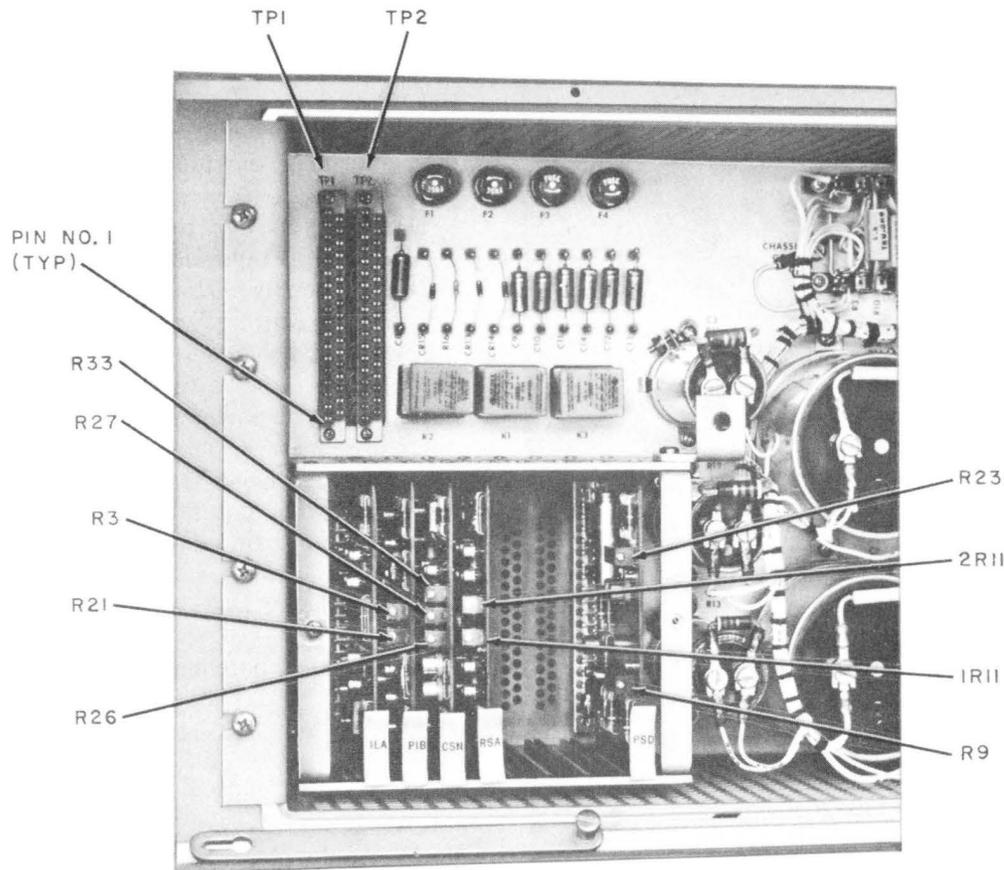
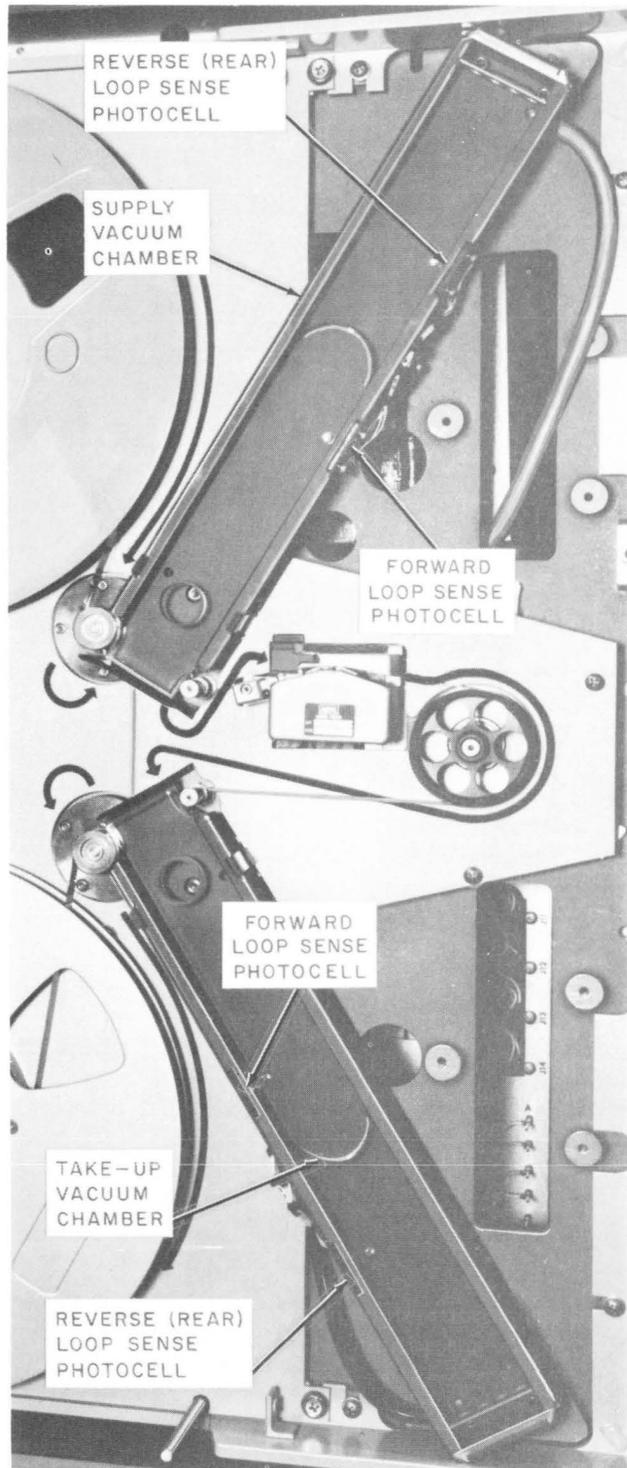

Fig. 6—Control Unit Showing Potentiometer and Test Point Locations
Fig. 9—Vacuum Chambers—Shown with Chamber Area Overlay Plate Removed
2.06 Control Unit Power Supply: The control unit contains a power supply which provides +12 and -12 volts of power for the control unit. Potentiometers located on printed circuit board PSD (Fig. 6) are used to regulate the voltage. Potentiometer R9 regulates +12 volts and
- (1) Apply power to the recorder and install a reel of tape, looping the tape around the head assembly. **Do not place the tape around the capstan.** Provide sufficient tape within the vacuum chambers to form proper loop lengths.
- (2) Remove power from the recorder.
- (3) Using a KS-6854 screwdriver, turn adjustment screw of potentiometers 1R11 and 2R11 on reel servo printed circuit board RSA (Fig. 6) fully clockwise; then back off six turns counterclockwise.
- (4) Connect patching cords at TP2 as follows:
- (5) Apply power to the recorder.
- (6) Program the recorder for forward operation and permit the capstan to rotate for a few seconds.
(7) Program the recorder for stop. In this mode, the capstan shall not creep. If the capstan is creeping, adjust R33 on the capstan servo printed circuit board CSN (Fig. 6) until the creeping stops.
(8) Carefully grasp the capstan and turn it by hand gently. The capstan will turn easily up to a certain velocity, above which rapidly increasing resistance will be felt due to servo action. Adjust R33 until the velocity at which the servo action commences is the same both in forward and reverse. The capstan servo is then set up to be in the middle of the dead band during the standby condition of the recorder. This completes adjustments preliminary to measuring the speed of the capstan.
(9) Now finish threading the tape on the transport by placing the tape around the capstan and
(10) Place a distinguishable pencil mark or a small piece of tape on the front face of the capstan for use as a reference point while using the stroboscope. The mark should be placed near the periphery of the capstan but not touching the outer rubber part.
(11) Operate the recorder in forward operation.
(12) Set the stroboscope flashing rate as closely as possible to 139 flashes per minute. With the stroboscope flashing light directed on the rotating capstan, adjust R26 on the capstan servo printed circuit board CSN (Fig. 6) until there are three essentially stationary images of the mark on the front face of the capstan. Capstan rotation should now correspond to 46.3 rpm.
(13) Operate the recorder in reverse operation and repeat the procedure in (12) except adjustment shall be made on R27 to obtain proper capstan speed in reverse.
(14) Recheck capstan speed in forward operation and readjust R26 if necessary.
(15) Remove power from the recorder and disconnect the patching cords from TP2.
(1) Using the volt-ohm-milliammeter between TP2-29 (Fig. 6) and TP2-35 (with TP2-35 as the 0-volt reference), adjust potentiometer R9 on printed circuit board PSD to obtain a reading of +12 volts ± 1.0 percent (+11.88 to +12.12).
(2) Using the volt-ohm-milliammeter between TP2-32 and TP2-35 (with TP2-35 as the 0-volt reference), adjust potentiometer R23 on printed circuit board PSD to obtain a reading of -12 volts ± 1.0 percent (-11.88 to -12.12).
(1) Connect patching cords at TP2 (Fig. 6) as follows:
(2) Using manual controls, operate the transport for forward tape movement. With the tape in forward motion, adjust potentiometer 2R11 (Fig. 6) on the reel servo printed circuit board RSA counterclockwise while observing the tape loop in the take-up vacuum chamber (Fig. 9). Tape loop oscillations about the forward loop sense photocell will decrease in amplitude as 2R11 is rotated counterclockwise. Adjust 2R11 until tape oscillation becomes minimal and the loop just starts to decrease in length.
(3) Stop the recorder and remove patching cord between TP2-14 and TP2-15.
(4) Operate the recorder for reverse tape movement. Adjust potentiometer 1R11 (Fig. 6) counterclockwise while observing tape loop oscillations about the forward loop sense photocell in the supply vacuum chamber. Adjust 1R11 until tape oscillation becomes minimal and the loop just starts to decrease in length.
(5) Stop the recorder and remove the patching cord between TP2-21 and TP2-22.
(6) Operate the recorder in the rewind mode and observe tape loops in both vacuum chambers (Fig. 9). Both loops should oscillate about the reverse (rear) loop sense photocells. Minor readjustment of 1R11 for the supply vacuum chamber or 2R11 for the take-up vacuum chamber may be necessary.
(1) Using TP2-35 (Fig. 6) as the 0-volt reference, connect the KS-14510 L1 voltmeter between TP2-35 and TP1-20.
- (3) Adjust potentiometer R3 (Fig. 6) on the photosense and interlock printed circuit board PIB. Adjust R3 until the voltmeter indicates a transition from a high state (+12 volts) to a low state (0 volts).
- (4) Move the tape until the BOT marker is beneath the photosense head. Counting the number of turns, adjust R3 in a counterclockwise direction until the voltmeter indicates a transition from a low state (0 volts) to a high state (+12 volts). The potentiometer adjustment should require approximately three turns before the transition occurs.
- (5) Readjust R3 in a clockwise direction halfway back to the transition point of (3).
- (6) Connect the voltmeter to TP1-21 using TP2-35 as the 0-volt reference. Repeat the procedure in (2), (3), (4), and (5), adjusting potentiometer R21 on printed circuit board PIB and placing the EOT marker under the photosense head during (4).